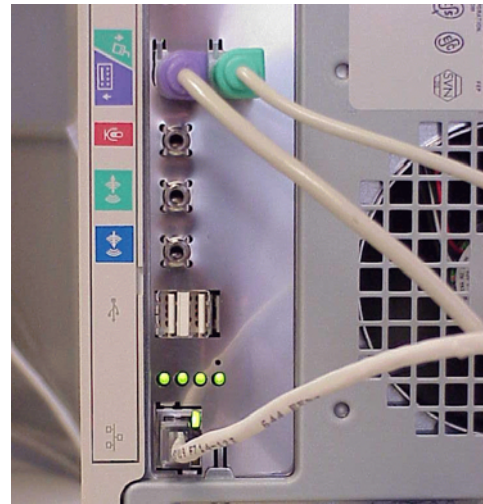

Figure 3
1. Based on the site's workstation usage, identify the two AWIPS Hewlett-Packard (HP) workstations to be augmented by the two new Linux workstations.
5. Place the new Dell CPU on the floor near the existing HP workstation CPU. Connect the keyboard, and mouse to the back of the Dell CPU (figure 3). (These connections are color coded to help you identify the proper port on the back of the CPU for each cable connection.) Connect the Dell CPU power to an existing power distribution circuit near the unit.
9. Connect the 10/100 BaseT LAN cable, shipped with the modification note into the RJ-45 10/100 BaseT port on the Dell machine (figure 3).